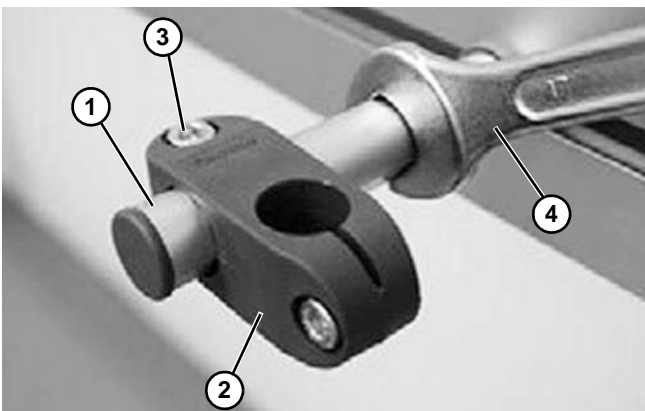

Figure 91
2. Attach the guide rail (Figure 91, item 1) to the clamp (Figure 91, item 2). Tighten the screw (Figure 91, item 3). Remember, do not over tighten the screw.
3. Use a wrench (Figure 91, item 4) to tighten the guide rail to the frame. Remember, do not over tighten the screw. Install remaining brackets.